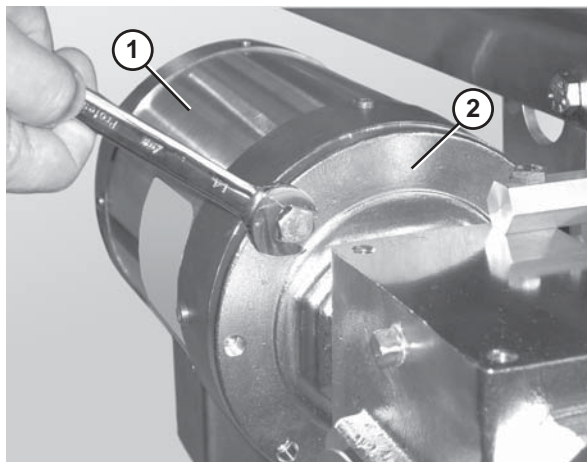

Figure 51
- Remove the bolts that connect the motor to the drive assembly (**Figure 51**).
- Remove the motor (**Figure 51, item 1**) from the drive assembly (**Figure 51, item 2**).